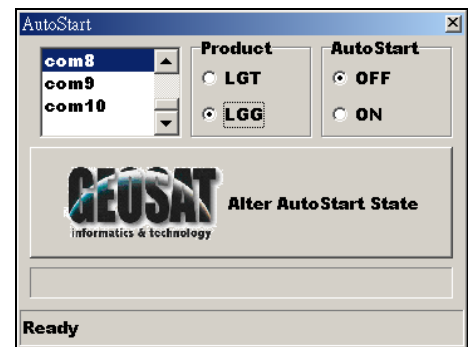

Figure 5
3. Launch the AutoStart-OnOff.exe program in your hosts Machine. Select the com port of the host machine connected to LGG. Select Product as "LGG". Select "OFF" radio item in AutoStart Group (Figure 5);